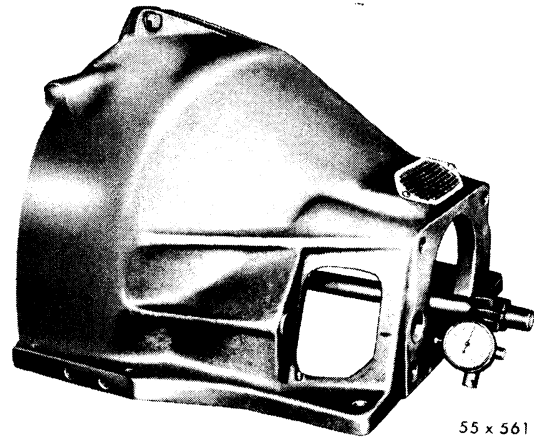

Fig. 13—Typical Method of Checking Rear Face of Housing
- (3) Change the position of the dial indicator and check the rear face of the housing, as shown in Figure 13. This tolerance must be within .003 inch. Assuming that all burrs and dirt has been removed as described in step (1), this tolerance will no doubt be within the specified limits.